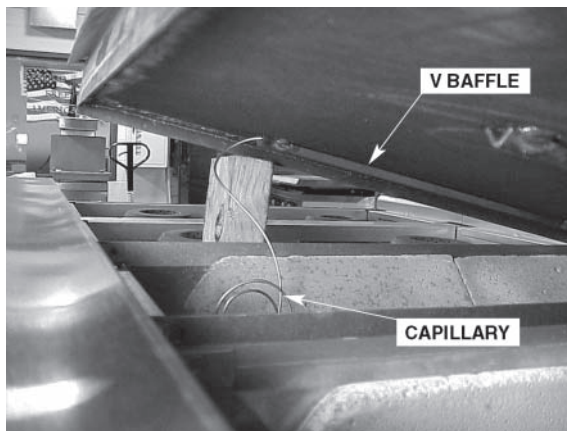

Fig. 6
2. Carefully feed the bulb into the V-baffle in each section of the griddle. There will be (1) capillary bulb for each griddle thermostat. Make sure that the bulb is fully inserted into the V-baffle so there is no exposure of the capillary to the burner flame (Fig. 6).